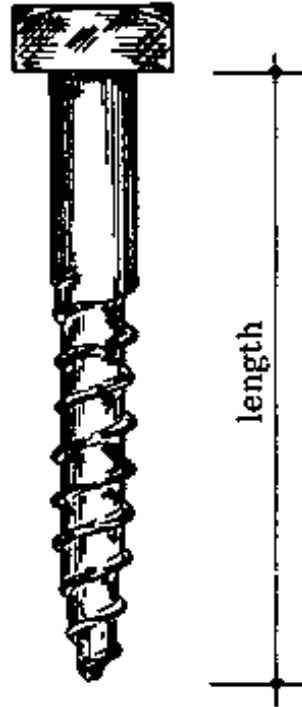

Fig. 4
- COACH SCREWS: This is a strong screw with a square head. Unlike other wood screws, it is turned with a spanner. Always put a metal washer under the head to prevent damage to the wood surface. The length is measured from the point to the underside of the head (Fig. 4).